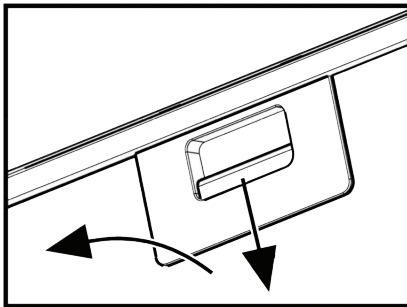

Fig. 6
8.7 To remove the aluminium filter (**Fig. 6**), press on the spring sliding part and, pulling down, remove the filter from the panel. Install the filter in the reverse order/